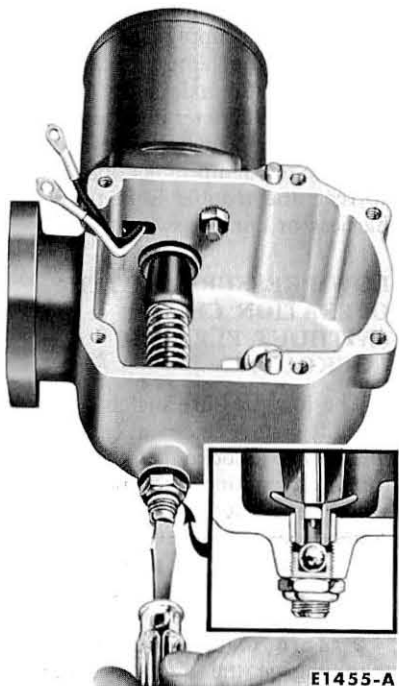

FIG. 12—Worm Shaft Adjustment
4. Place the ball bearing in the recess of the adjusting screw, and turn in the adjusting screw until the ball bearing is snug against the end of the worm shaft assembly (Fig. 12). Back off the adjusting screw $\frac{1}{8}$ turn for proper adjustment.